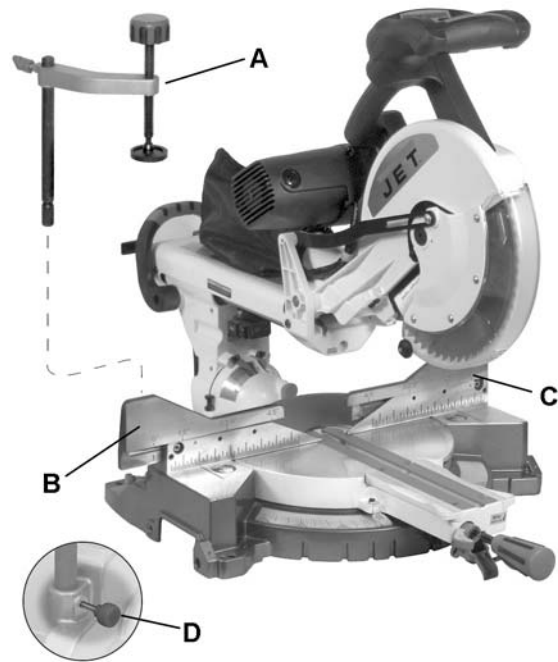

Figure 4
1. Place the *hold-down clamp assembly* (A, Fig. 4) in a mounting hole located behind the right or left *fence* (B, C).
2. Thread the *hold-down clamp knob* (D) into the hole located at the rear of the saw base.
3. Tighten the *hold-down clamp knob* (D).